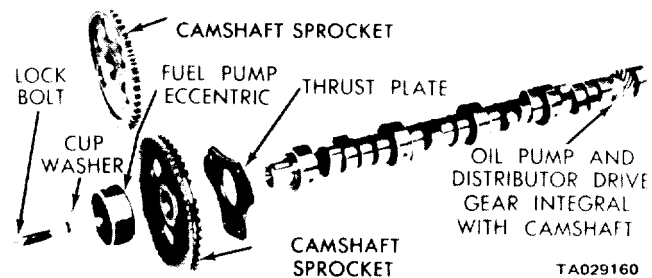

Figure 11-33. Camshaft and Sprocket Assembly.
a. General The disassembled camshaft and sprocket assembly is shown in figure 11-33. Make sure the shaft is thoroughly lubricated prior to installation.